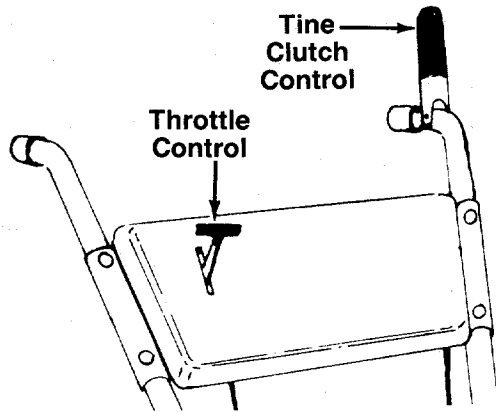
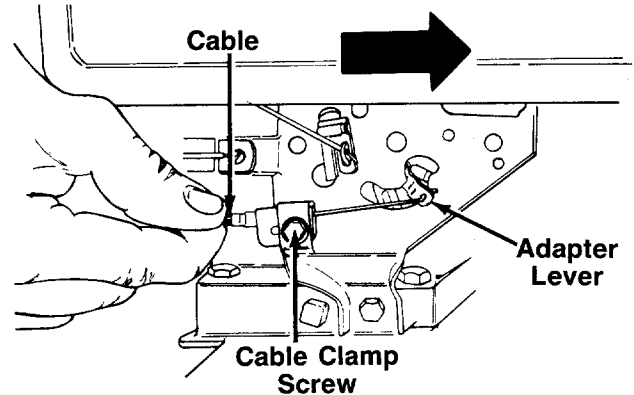

FIGURE 16.
FIGURE 23.
The throttle control lever is located on the handle panel. It controls the engine speed and stops the engine. See figure 16.
The clutch control lever is located on the left handle. See figure 16. Squeezing the lever against the handle engages the tine drive. Release the lever to stop the tines from turning.
2. Move the throttle control lever forward to FAST or START position. Make certain clutch lever is released. See figure 16.
1. Move throttle control lever to STOP position. See figure 16.
1. Loosen the cable clamp screw. See figure 23.
2. With the throttle control in FAST position (see figure 16) and the cable connected to the adapter lever, push the cable through the cable clamp in the direction shown in figure 23 until the adapter lever is as far up as it will go.